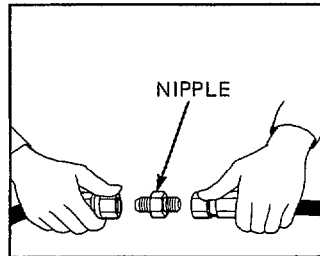

Figure 8. Connect the Two Hoses
- Connect the two push/pull hose ends together using a nipple. See Figure 8.
- Connect the sideshift hose ends together using a nipple. See Figure 8.